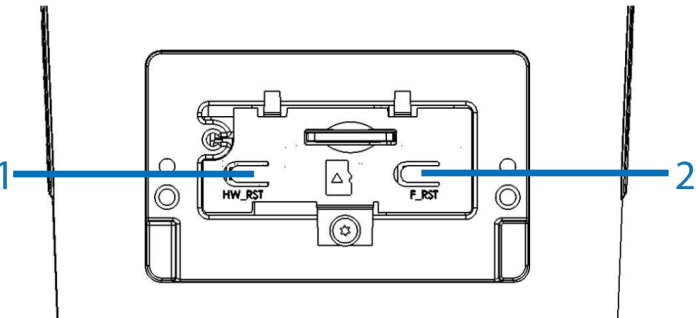

Figure 5
**Note:** The 'Hardware reset button' (1) (Figure 5) and 'Factory reset button' (2) (Figure 5) are now visible.